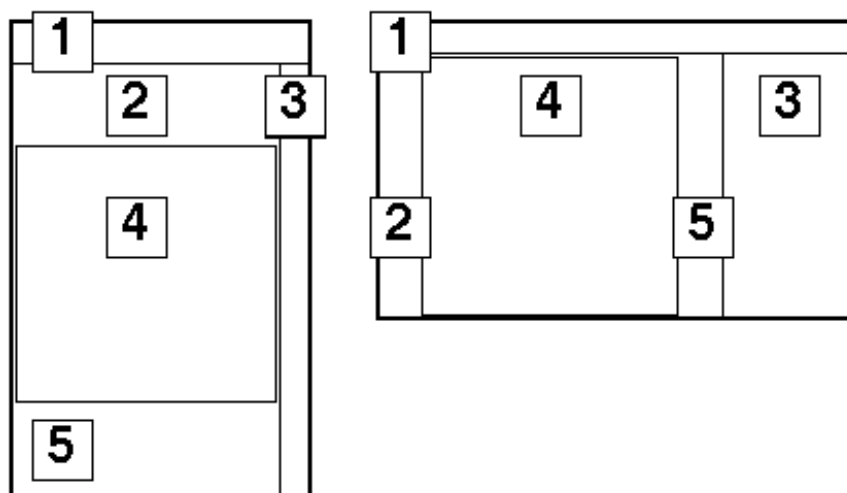

Figure 4-3 0_0_Home
- 4. Wait until the starting screen appears on the control device (Refer to Figure 4-3).